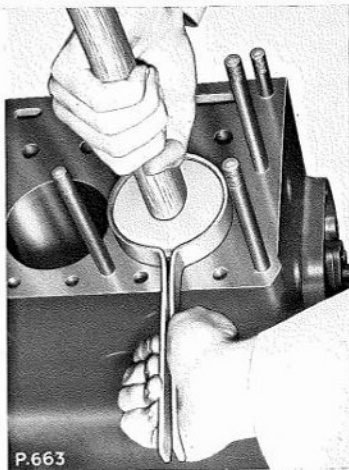

Fig. B.45. Fitting the piston and connecting rod assembly, using the Churchill Tool R.G.133 to compress the piston rings
2. To facilitate the refitment of the piston and connecting rod assemblies, it is recommended that the Churchill Ring Compressor R.G. 133 be used (see Fig. B.45); this minimises the risk of breaking the piston rings upon fitting to the cylinder bore. If necessary, a tool can be made up from a steel sleeve of approximately the same internal diameter as the piston external diameter, and about 1 in. (25 mm.) in length. Slit the sleeve through its side and slide it over the rings so that they can be compressed to the bore diameter when entering the cylinders.